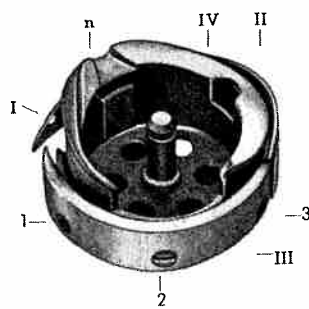

Fig. 14
4. The Hook (Fig. 14). Move the needle bar to its highest and tilt the head over on its hinges. With a small brush dust the hook. Apply a few drops of paraffin to the race between the hook II and the bobbin carrier IV; then work the machine rapidly for a short while. Now apply a few drops of oil. Should this prove ineffective in dislodging any dirt from the hook, or should thread ends impede the free movement, then the hook must be carefully dismantled. This is done by removing the race guide III, after the small
Before reassembling the parts move the thread take-up lever to its highest point so that the point I of the hook is on the left, and on top, as shown in Fig. 14. Then replace the bobbin carrier IV into the hook II, and let the retaining key engage into the groove *n* - see Fig. 14. Finally, replace the guide III and fix it down with screws 1, 2 and 3.